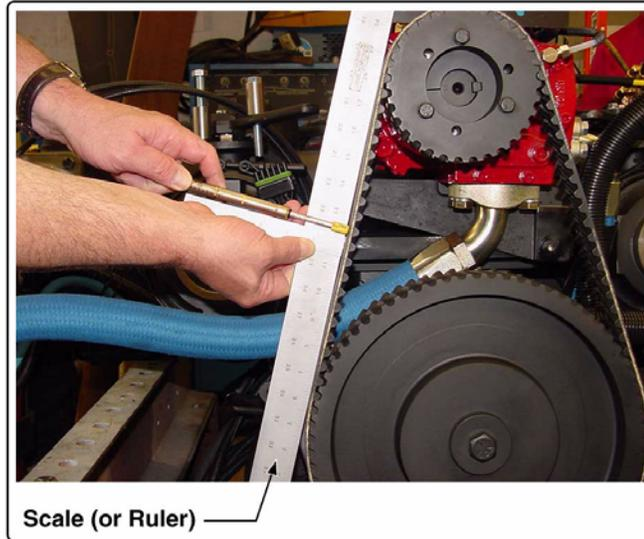

Figure 7-5: Measuring Tension using a Scale
(See Figure 7-5: 'Measuring Tension using a Scale.')
3. Make sure that the body of the strain gauge is perpendicular to the belt when applying load. (See Figure 7-5: 'Measuring Tension using a Scale.')